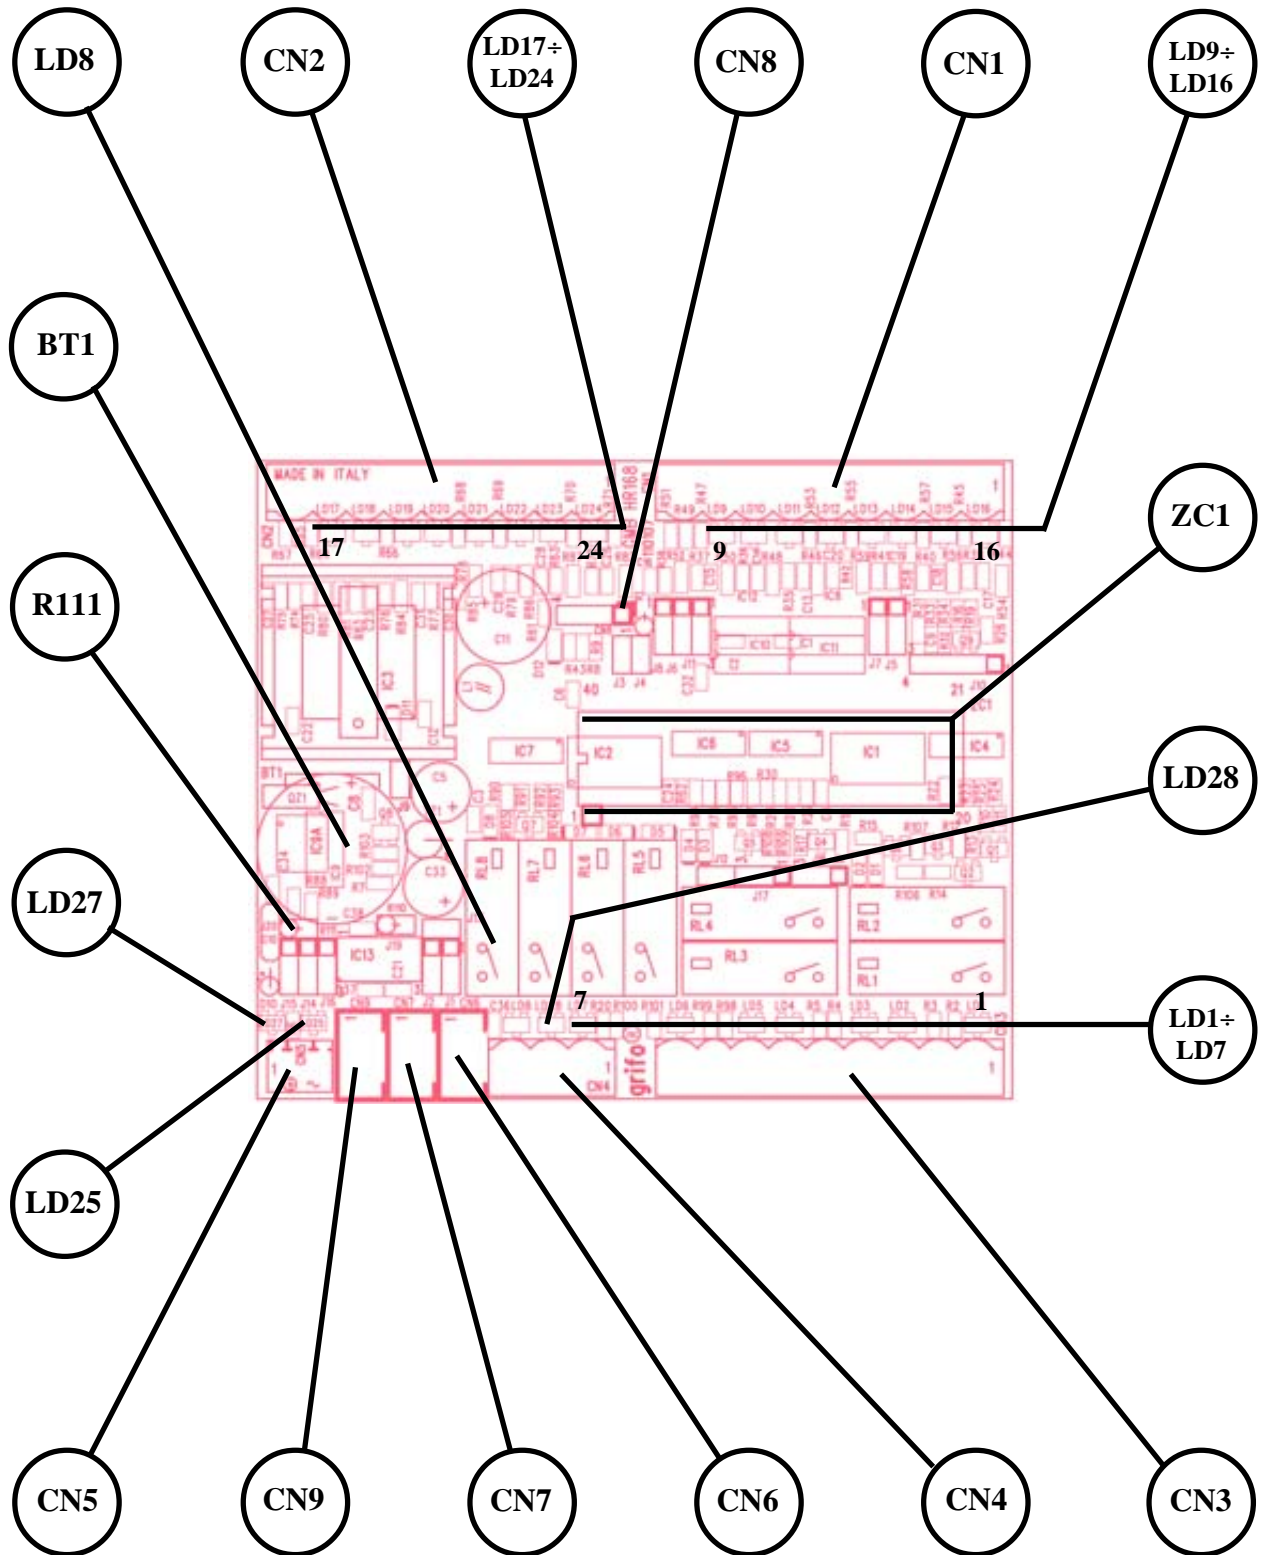

FIGURE 4: CONNECTORS, BATTERY, LEDs, ETC. LOCATION
**GMB HR168** has 9 connectors that can be linked to other devices or directly to the field, according to system requirements. Below are reported the pin outs, the meaning of the connected signals (including their directions); figure 4 shows the connectors position on the board and it simplify their recognitions. Finally the following figures show the on board connection for each connector, plus some examples, that simplify and speed the wiring phase.